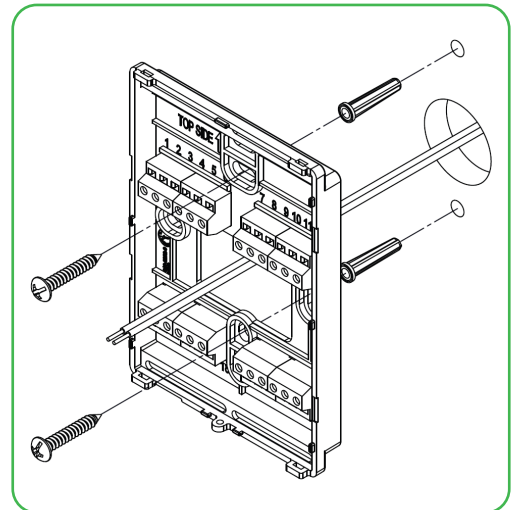

Figure 2 Install base
6. Align base and mark location of two mounting holes on wall (Figure 2).